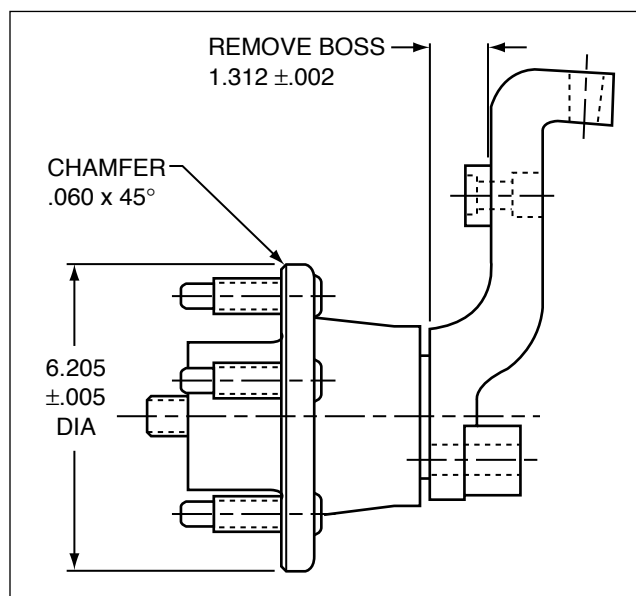

Figure 2. Spindle and Hub Modifications
•Before installation of the GT 6000 caliper onto a Stock Car Products spindle, the raised mounting boss on the upper portion of the spindle arm must be removed. Measuring from the machined face of the spindle, mill the boss down to 1.312 inches, ± 0.002 . Refer to figure 2, on the right.
•This GT 6000 front kit uses a small diameter rotor mounting hat to accommodate the larger size friction pads of the GT 6000 caliper. To fit the GT hat to the Stock Car Products front hub, the outside diameter (O.D.) of the hub must be reduced. Reduce the O.D. of the hub to 6.205 inches, ± 0.060 . Chamfer the O.D. of the hub to 0.060 inch x 45 degrees. See figure 2, on the right.